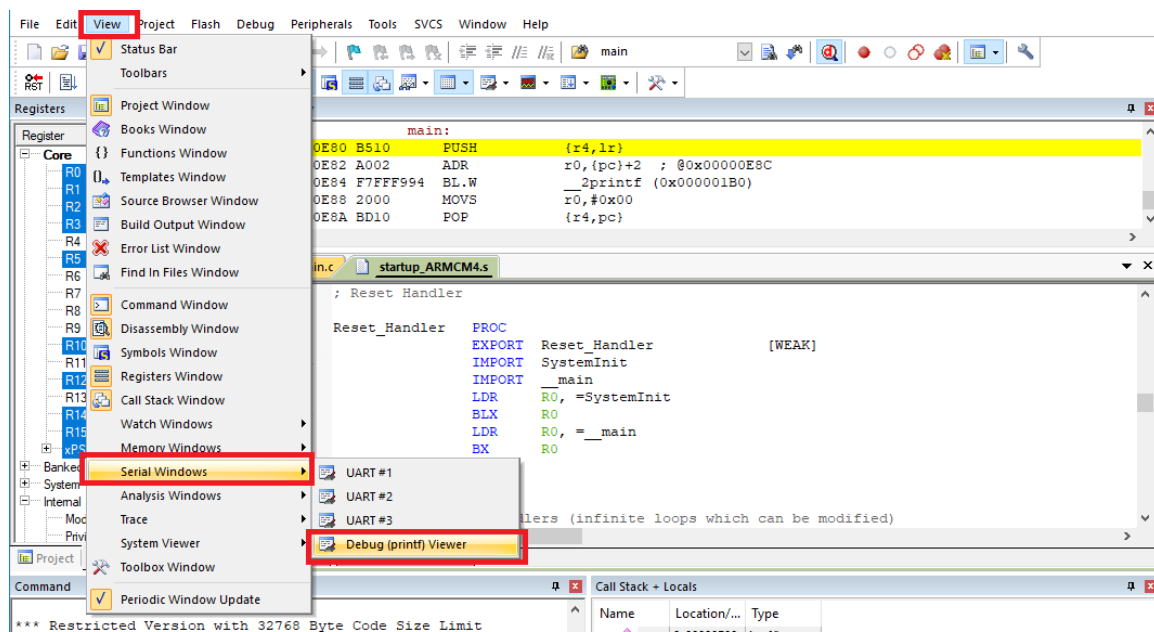

Figure 17: Opening the printf viewer.
5. Once in the debug mode, you will be able to see the processor registers, the disassembly window, and other useful windows to debug your applications. We can open the printf viewer as shown in Figure 17.